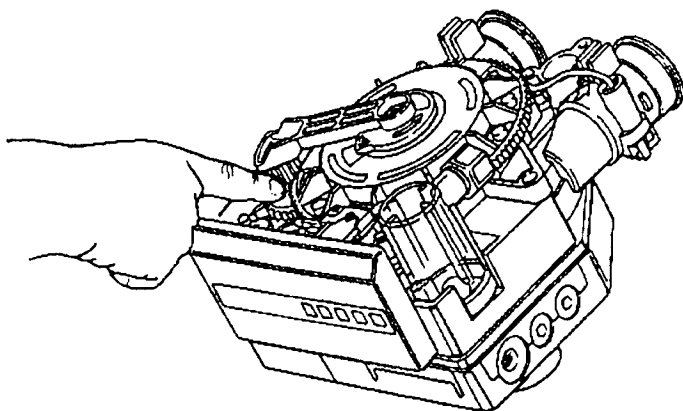

Figure 6
3. Press down on the top of the drive gear to disengage the cam gear (Figure 6).
- B. Press down on the top the drive gear to disengage the cam gear (Figure 6).